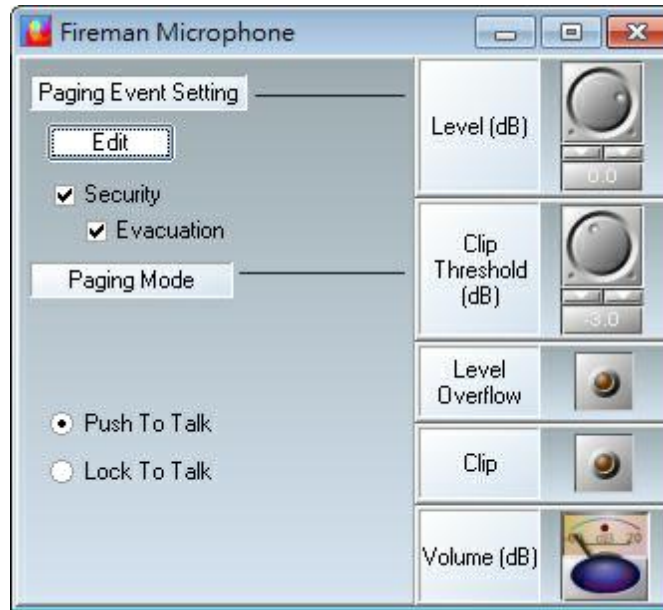

Figure 18: Fireman Microphone window
- Double click the Fireman Microphone Icon. The "Fireman Microphone" window will open (Figure 18).